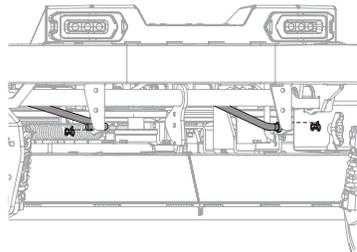

Figure 49
- Remove the two bow-tie pins from the deck rods that secure the front center lift link brackets on the frame to the front-center lift brackets on the deck and pull the front end of the rods out of place. See Figure 49.